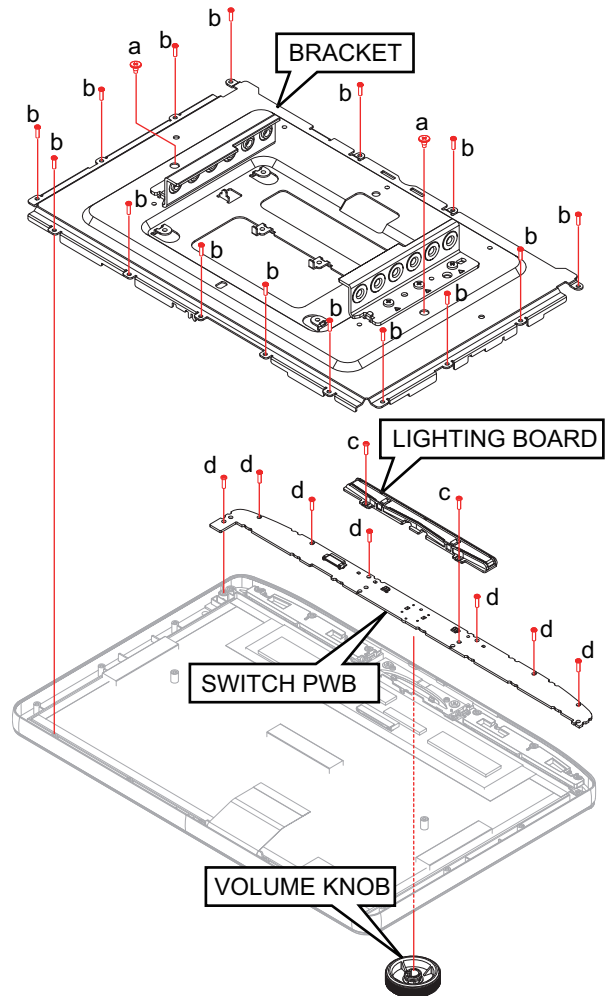

Fig.9
3.1.4 Removing the SWITCH PWB (See Fig.9)